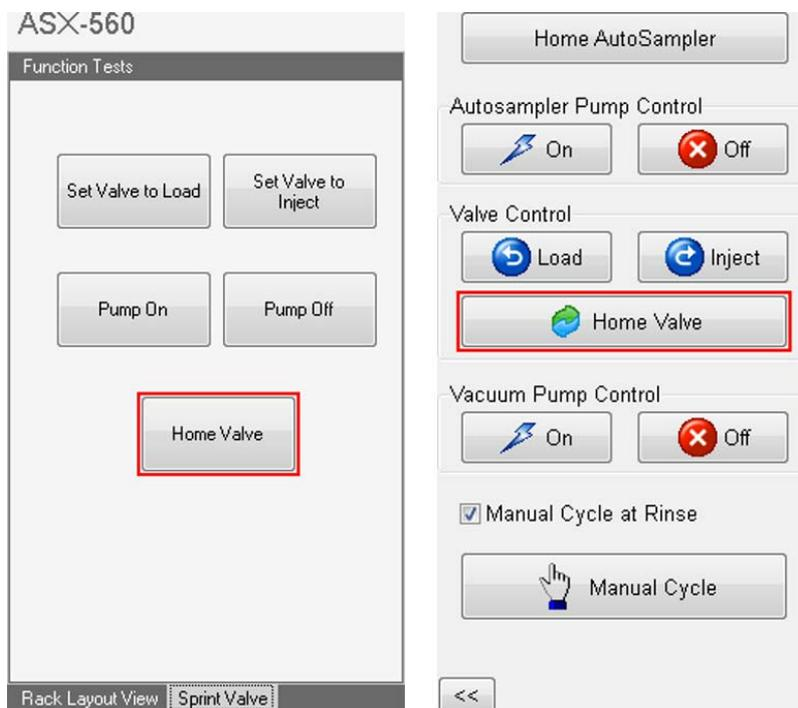

Figure A-25. Home Valve in Sprint Valve plugin (left) and in external Sprint Valve Configurator (right)
8. In the manual Sprint Valve control, click **Home Valve**. See Figure A-25.